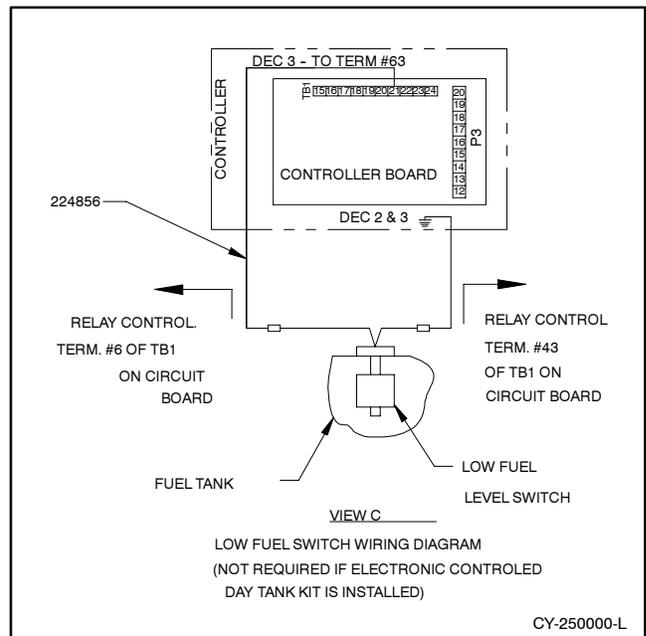

Figure 3 Low Fuel Switch Wiring Diagram
7. Connect low fuel level switch leads 63 and N according to the illustration in Figure 3. Use a connection kit (terminal strip) for easier connection and disconnection of generator accessories.